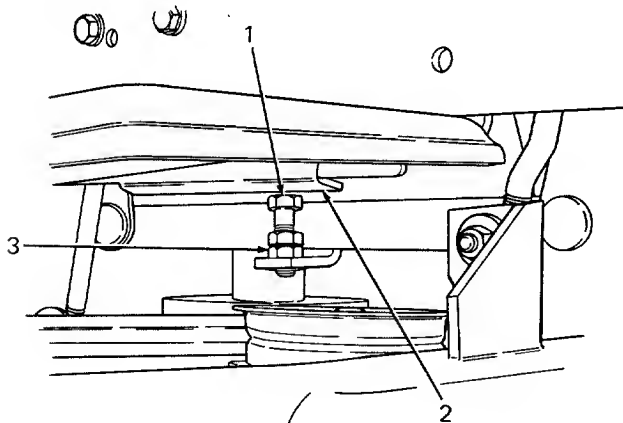

Figure 29
2. Raise the lift handle to its highest setting, make sure the head of the stop bolt is touching the frame. (See Figure 29.)